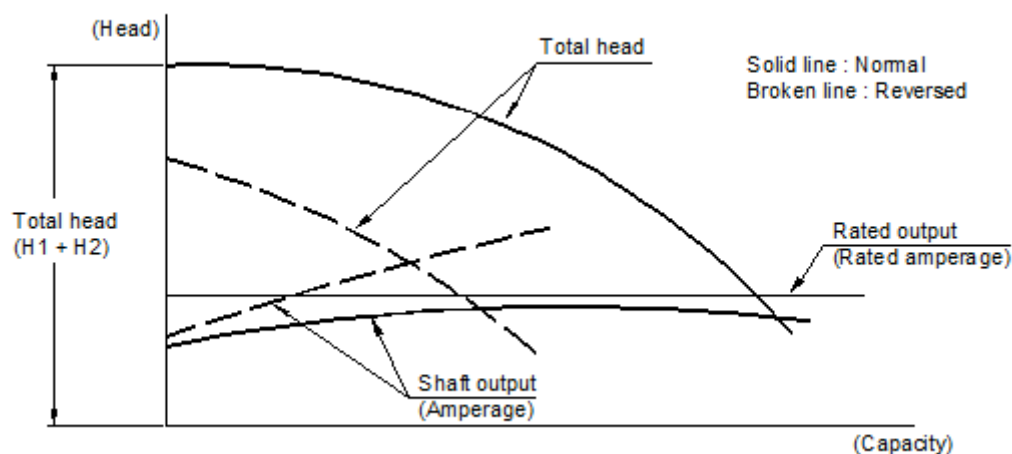

Fig. 18 Pump performance for Normal Rotation
5.2 Checking Rotation Direction (Figs. 18 and 19)
If the pump is reversed, a performance curve as denoted by dashed lines in Fig. 18 is usually obtained, where the pump's discharge pressure is lower than normal or specified, and a sudden rise electric current occurs with gradual opening of sluice valve.